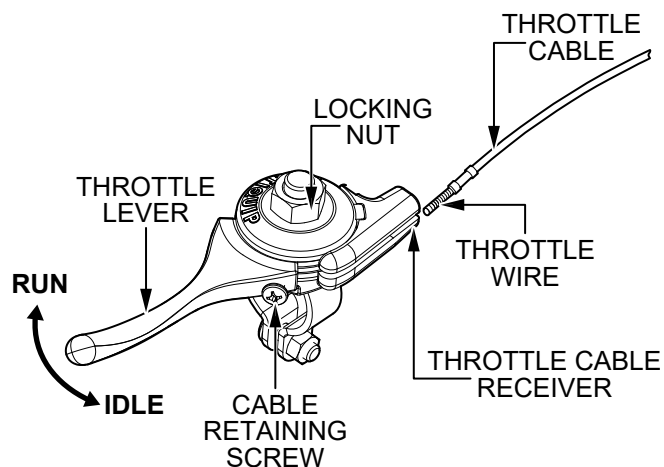

Figure 10. Adjusting Cable Tension
7. On the throttle lever, slightly loosen the locking nut and cable retaining screw (Figure 10).
8. Make sure the throttle cable is seated in the throttle cable receiver (Figure 10).
9. Route the throttle wire approximately 1/2 inch past the cable retaining screw (Figure 10). Tighten the cable retaining screw to secure the throttle wire.
10. Adjust cable tension as needed by loosening or tightening the locking nut and cable retaining screw on the throttle lever (Figure 10).